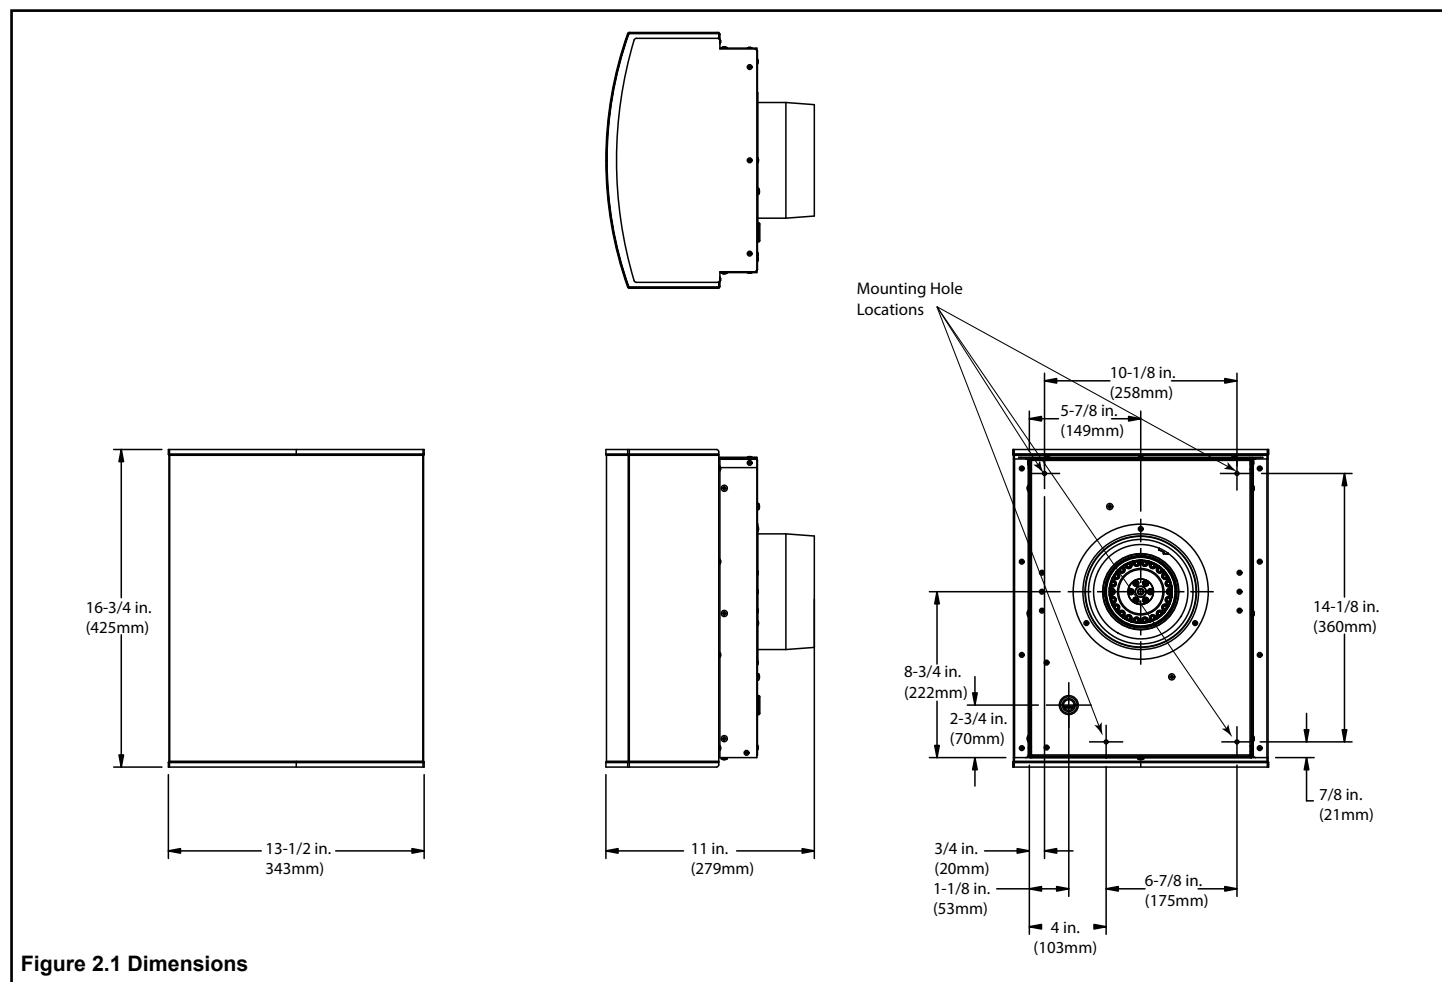
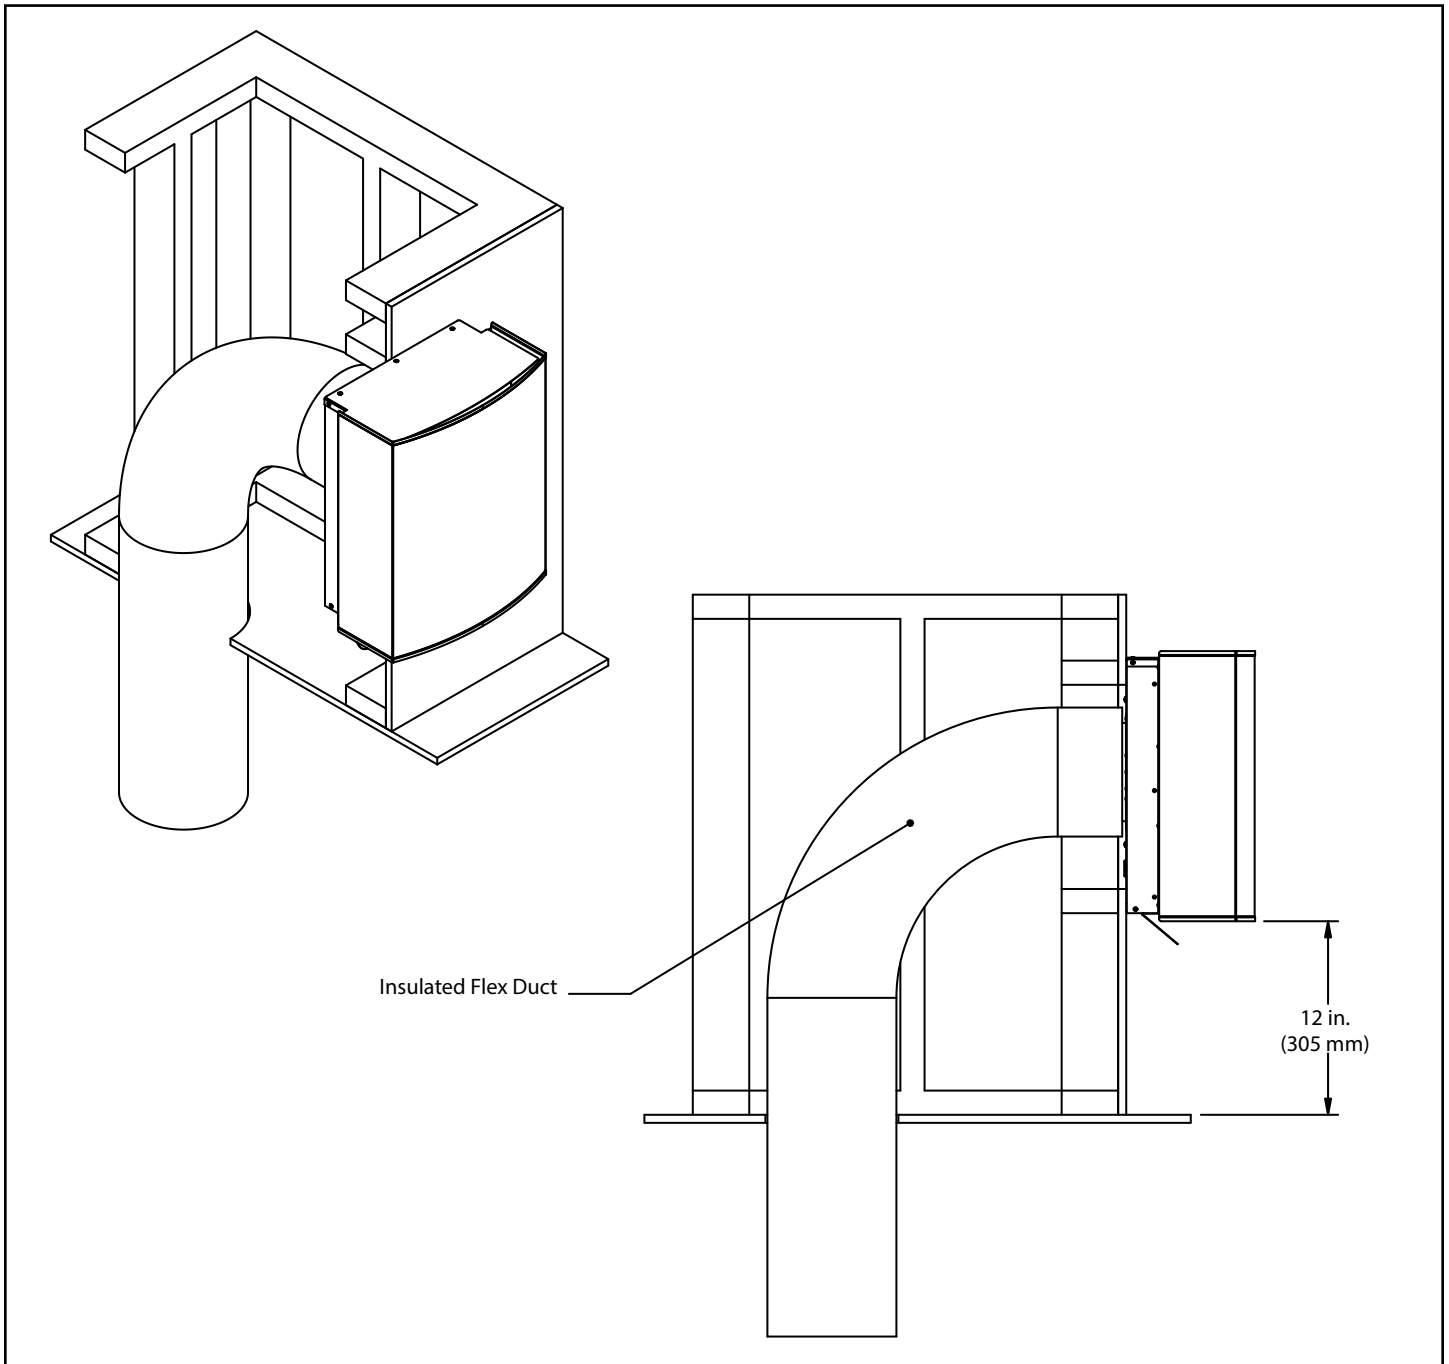

Figure 2.1 Dimensions
Figure 2.3 Flat Roof Enclosure
The dimensions are measured as shown in Figure 2.1.
1. If the HEAT-OUT-GAS is going to terminate on a flat roof, an enclosure similar to the one shown in Figure 2.3 will need to be constructed.
4. Cut a 7" diameter hole in the outside of building where the duct for the HEAT-OUT-GAS is to be located. Refer to Figure 2.1 and Figure 2.3 for duct location on HEAT-OUT-GAS.